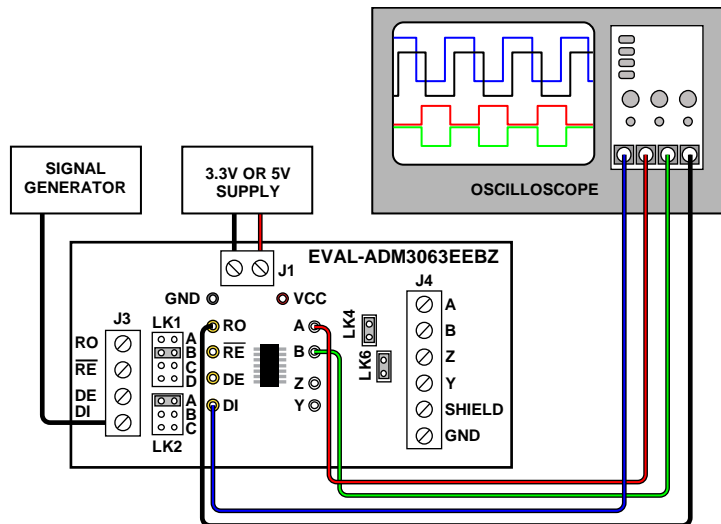

Figure 3. Full-Duplex RS-485 Loopback Test
For the EVAL-ADM3063EEBZ, a loopback test can be set up by closing the LK4 and LK6 jumpers. This test is shown in Figure 3. A signal generator is connected to the DI pin and this allows verification of the bus signals and the receiver output. Note the jumper positions of LK1 (B) and LK2 (A) for the EVAL-ADM3063EEBZ evaluation board. Ensure that LK3 and LK5 are also closed to loop back the transmitter outputs to the receiver inputs. In this configuration, the default termination resistors can be used, because both 120 Ω resistors on the board are connected in parallel by the loopback, ensuring that the test is conducted with a standard RS-485 load of 60 Ω (bus terminated at both ends by 120 Ω).